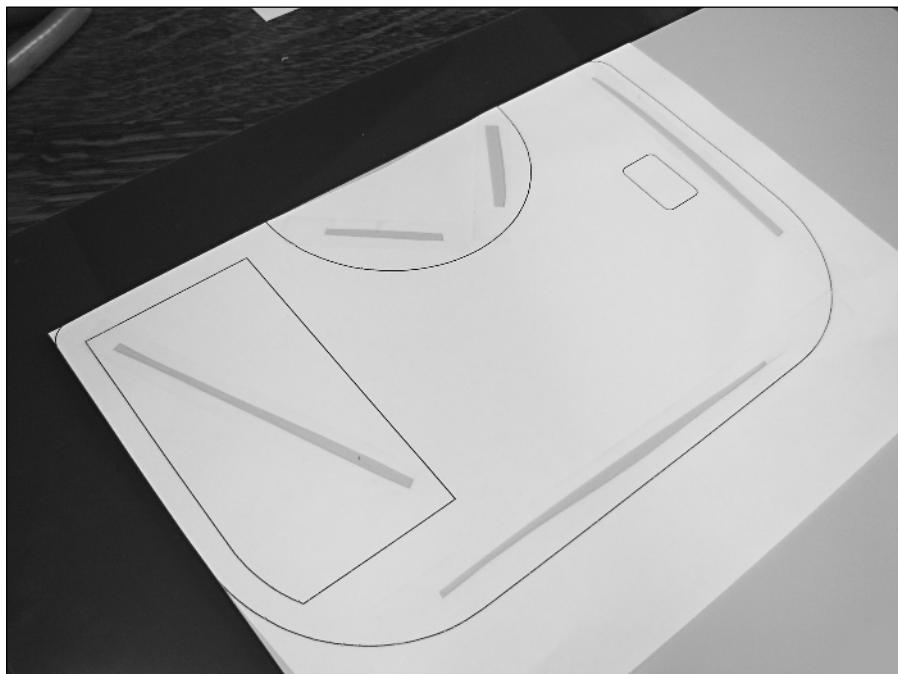

FIGURE 7-11: Taping down the rear plate pattern.
1. Locate the file “Rear plate.wmf” and print it out as you did with the other patterns. Slice out the top and one side, and make some slits on the inside. Tape this piece to the surface of the engraving plastic that you want to be visible on the back of the unit, as seen in Figure 7-11.